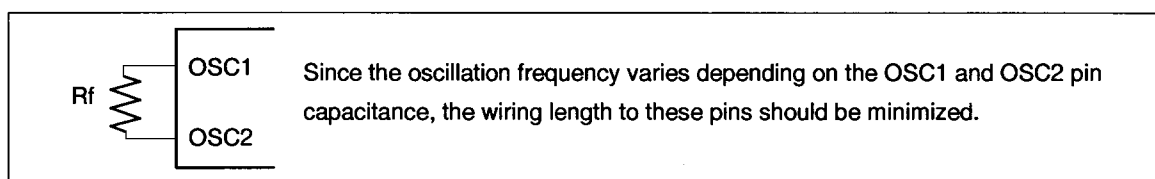

Figure 72 Internal Oscillation
11. Applies to the internal oscillator operations using external oscillation resistor R_f (figure 72 and table 42).